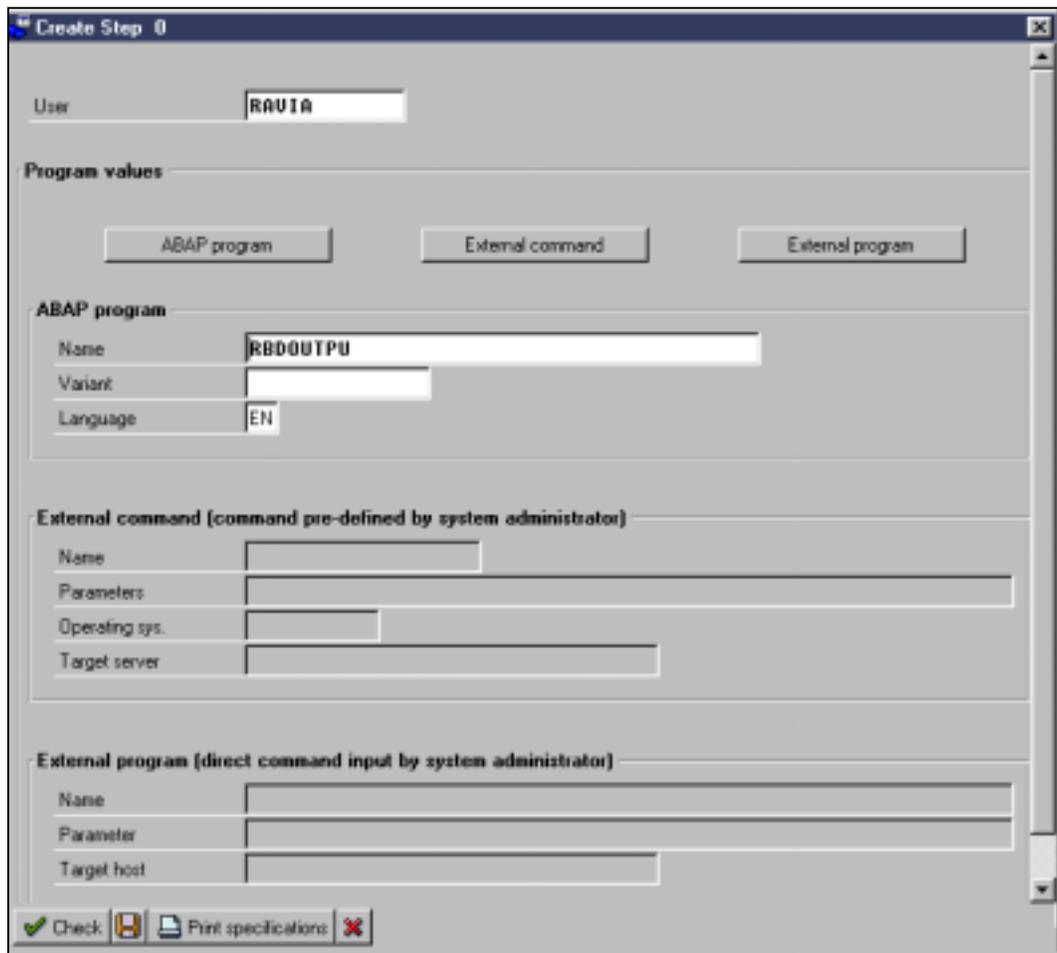

Figure 68: Running the RBDOUTPU program
1. Go to transaction SE38. Type RBDOUTPU as the program name, as shown in Figure 68.